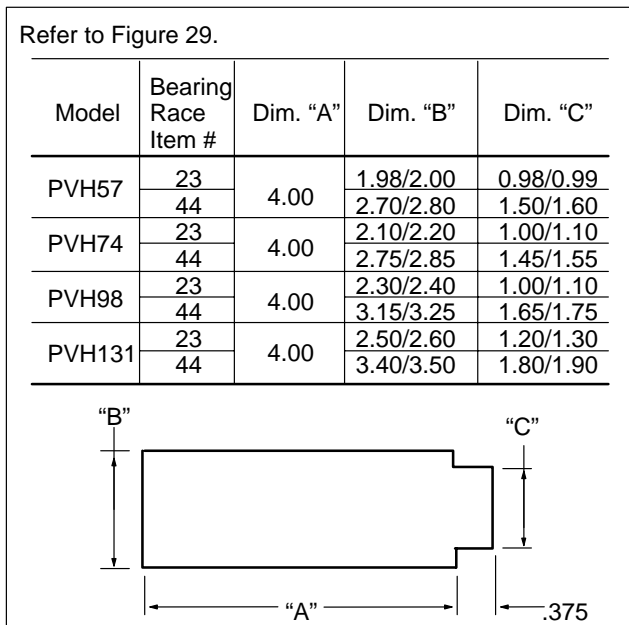

Figure 23: Bearing Race Installation Tool
- Bearing race installation tool (see Figure 23)